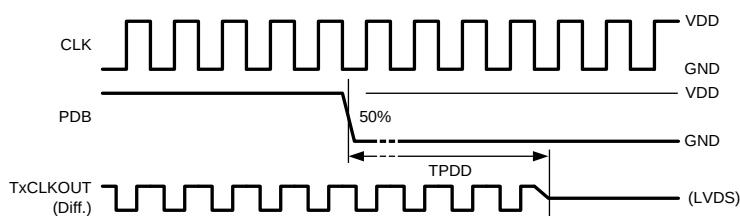

**Figure 9. Transmitter Power Down Delay**
| TPPD   | Transmitter Power Down Delay                                | Figure 9 (2)    |                | 100            | ns    |